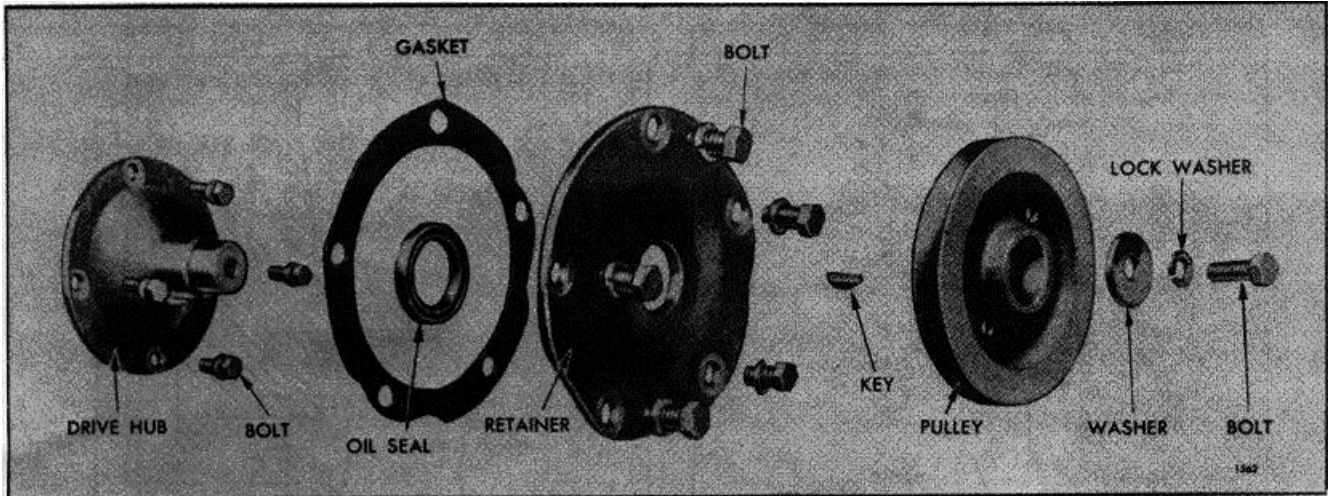
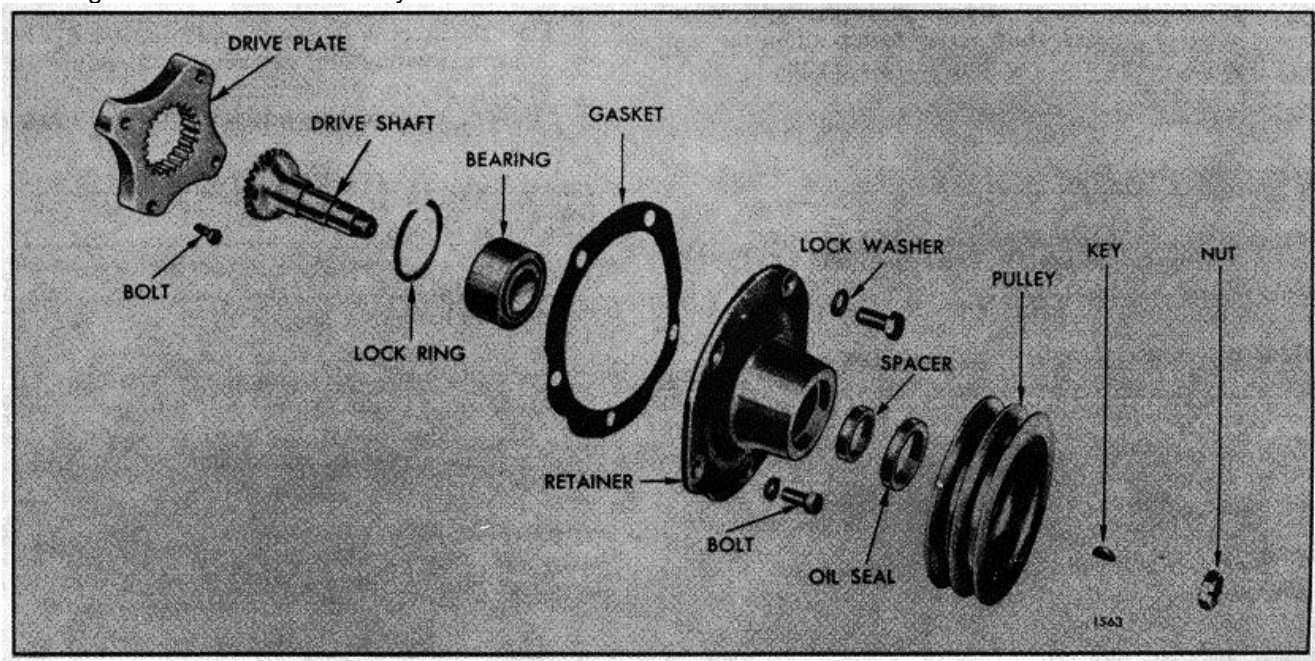
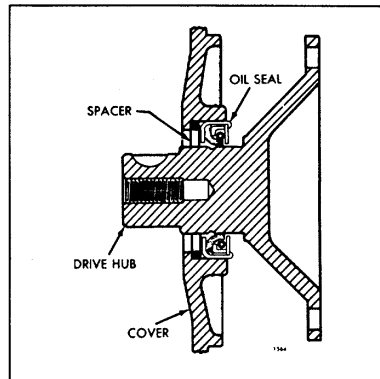

Figure 5. Components of Accessory Drive for Belt Driven Accessory (Drive Hub Type)
Figure 6. Components of Accessory Drive for Belt Driven Accessory (Drive Plate Type)
Figure 8. Location of Oil Seal Spacer
Belt driven accessories, such as battery-charging generators or air compressors, are driven off the camshaft or balance shaft gears by a drive hub and pulley (Fig. 5), or a spacer, accessory drive plate, accessory drive shaft, accessory drive retainer assembly and pulley (Fig. 6).
In the first arrangement, illustrated in Fig. 5, the drive hub is bolted to the camshaft or balance shaft gear. The oil seal retainer is bolted to the flywheel housing and the pulley is keyed to the drive hub shaft which extends through the oil seal retainer.
In the second arrangement, shown in Fig. 6, the spacer and accessory drive plate are bolted to the camshaft or balance shaft gear. The accessory drive shaft is splined to the drive plate at one end and supported by a bearing in the accessory drive retainer at the other end. The accessory drive retainer, which also incorporates an oil seal, is bolted to the flywheel housing. The pulley is keyed to the drive shaft which extends through the drive retainer assembly.
3. Remove the bolt and washer (Fig. 5), or nut (Fig. 6), retaining the pulley on the drive shaft.
6. Remove the accessory drive shaft, drive plate and spacer (Fig. 6), or drive hub (Fig. 5), in a manner similar to that outlined in Step 5 under removal of the direct gear driven type accessory drive.
7. Remove the snap ring and ball bearing from the accessory drive shaft retainer assembly shown in Fig. 6.
Inspect the ball bearing used to support the accessory drive shaft shown in Fig. 6. Wash the bearing in clean fuel oil and dry it with compressed air. Shielded bearings must not be washed; dirt may be washed in and the cleaning fluid could not be entirely removed
Inspect the accessory drive hub, shown in Fig. 5. for grooving at the area of contact with the lip of the oil seal. If the hub is grooved to a point where the effectiveness of the oil seal is lost, a ring type oil seal spacer is available which serves to reposition the seal, thus providing a new sealing surface for the lip of the seal (Fig. 8).
4. If the accessory drive shown in Figs. 6 or 7 is used, assemble as follows:
5. Assemble the accessory drive shown in Fig. 5 as follows: